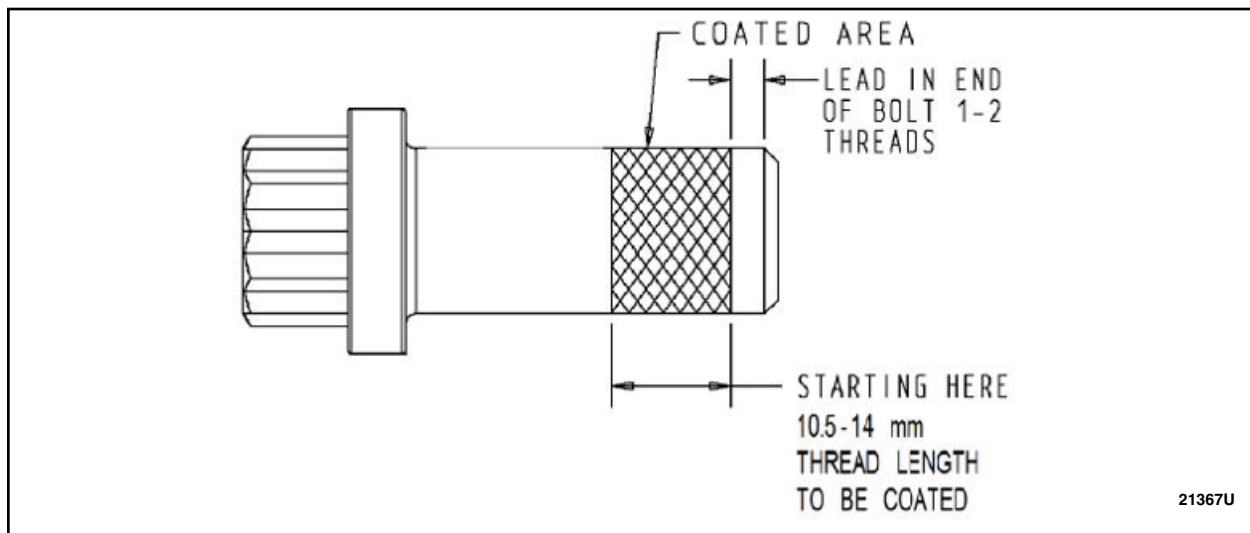

FIGURE 15
19. Inspect the original driveshaft flange to pinion flange bolts for rust in the threads and replace if rusted or damaged. Clean threads of the original driveshaft flange to pinion flange bolts with a wire brush and coat the threads with LOCTITE 243 Blue Medium Strength Threadlocker or equivalent. See Figure 15.